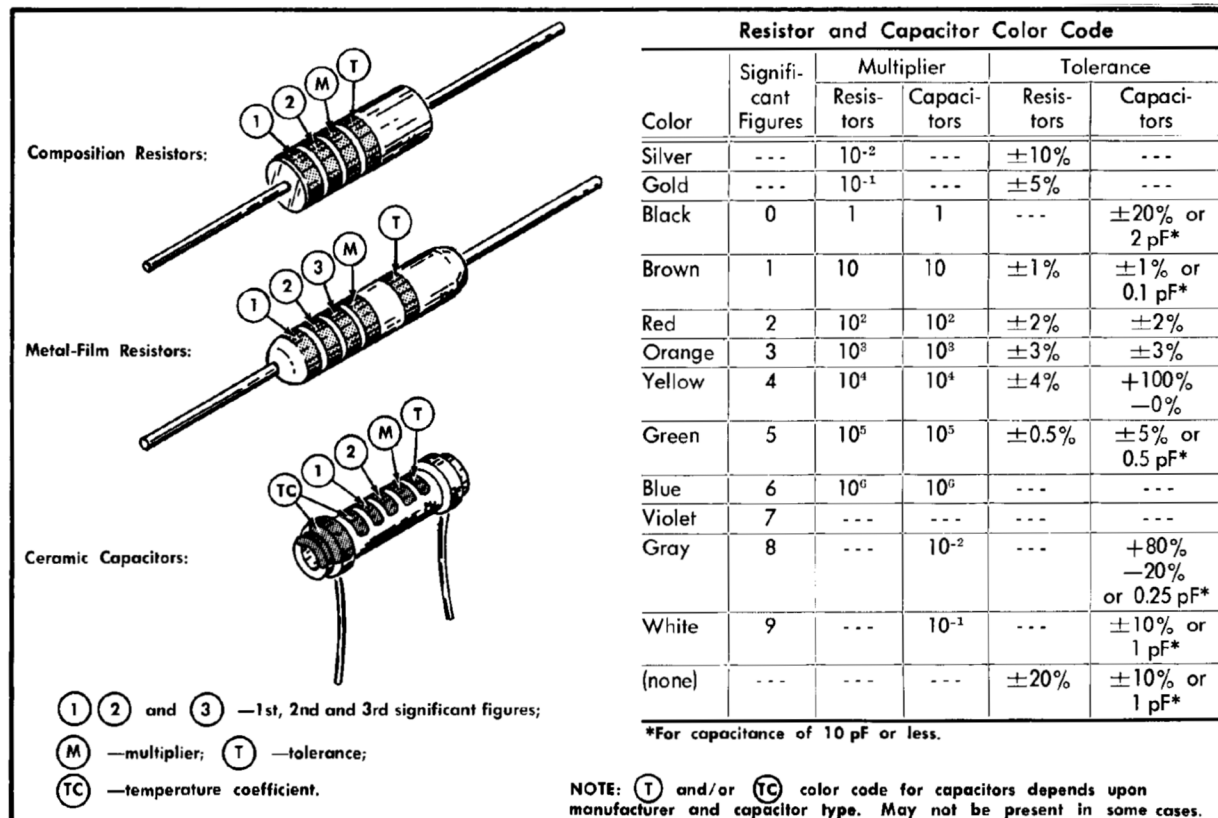

Fig. 4-2. Color-code for resistors and ceramic capacitors.
**Resistor Color Code.** In addition to the brown composition resistors, some metal-film resistors (identifiable by their gray body color) and some wire-wound resistors (usually light blue or gray-green) are used in the Type 115. The resistance value of a wire-wound resistor is printed on the body of the component. The resistance value of a composition resistor or metal-film resistor is color-coded on the component with EIA color-code (some metal-film resistors may have the value printed on the body). The color-code is read starting with the stripe nearest the end of the resistor. Composition resistors have four stripes which consist of two significant figures, a multiplier and a tolerance value (see Fig. 4-2). Metal-film resistors have five stripes consisting of three significant figures, a multiplier and a tolerance value.
**Capacitor Marking.** The capacitance value of a common disc capacitor or small electrolytic is marked in microfarads on the side of the component body. The white ceramic capacitors used in the Type 115 are color coded in picofarads using a modified EIA code (see Fig. 4-2).